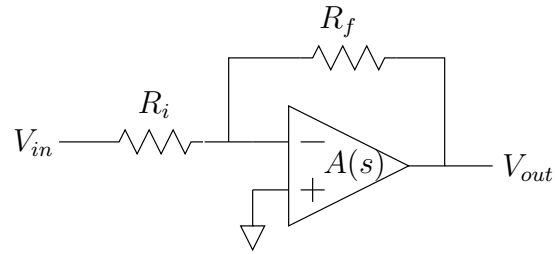

Figure 2: Op-Amp configuration 1
2. Consider the circuit in Figure 2.